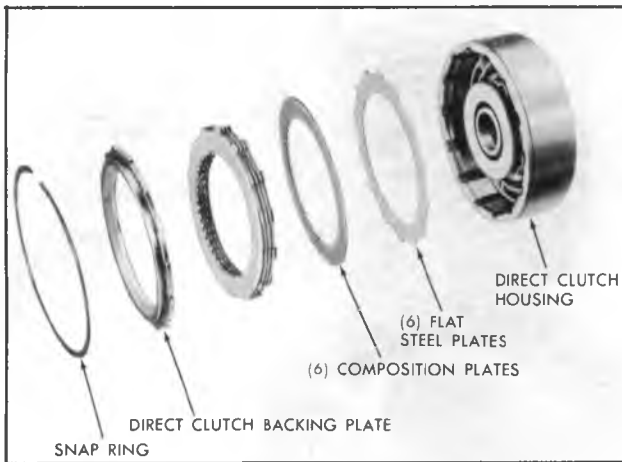

Figure 76—Direct Clutch Assembly Components
4. Remove direct clutch backing plate, six (6) composition, and six (6) steel clutchplates (fig. 76).